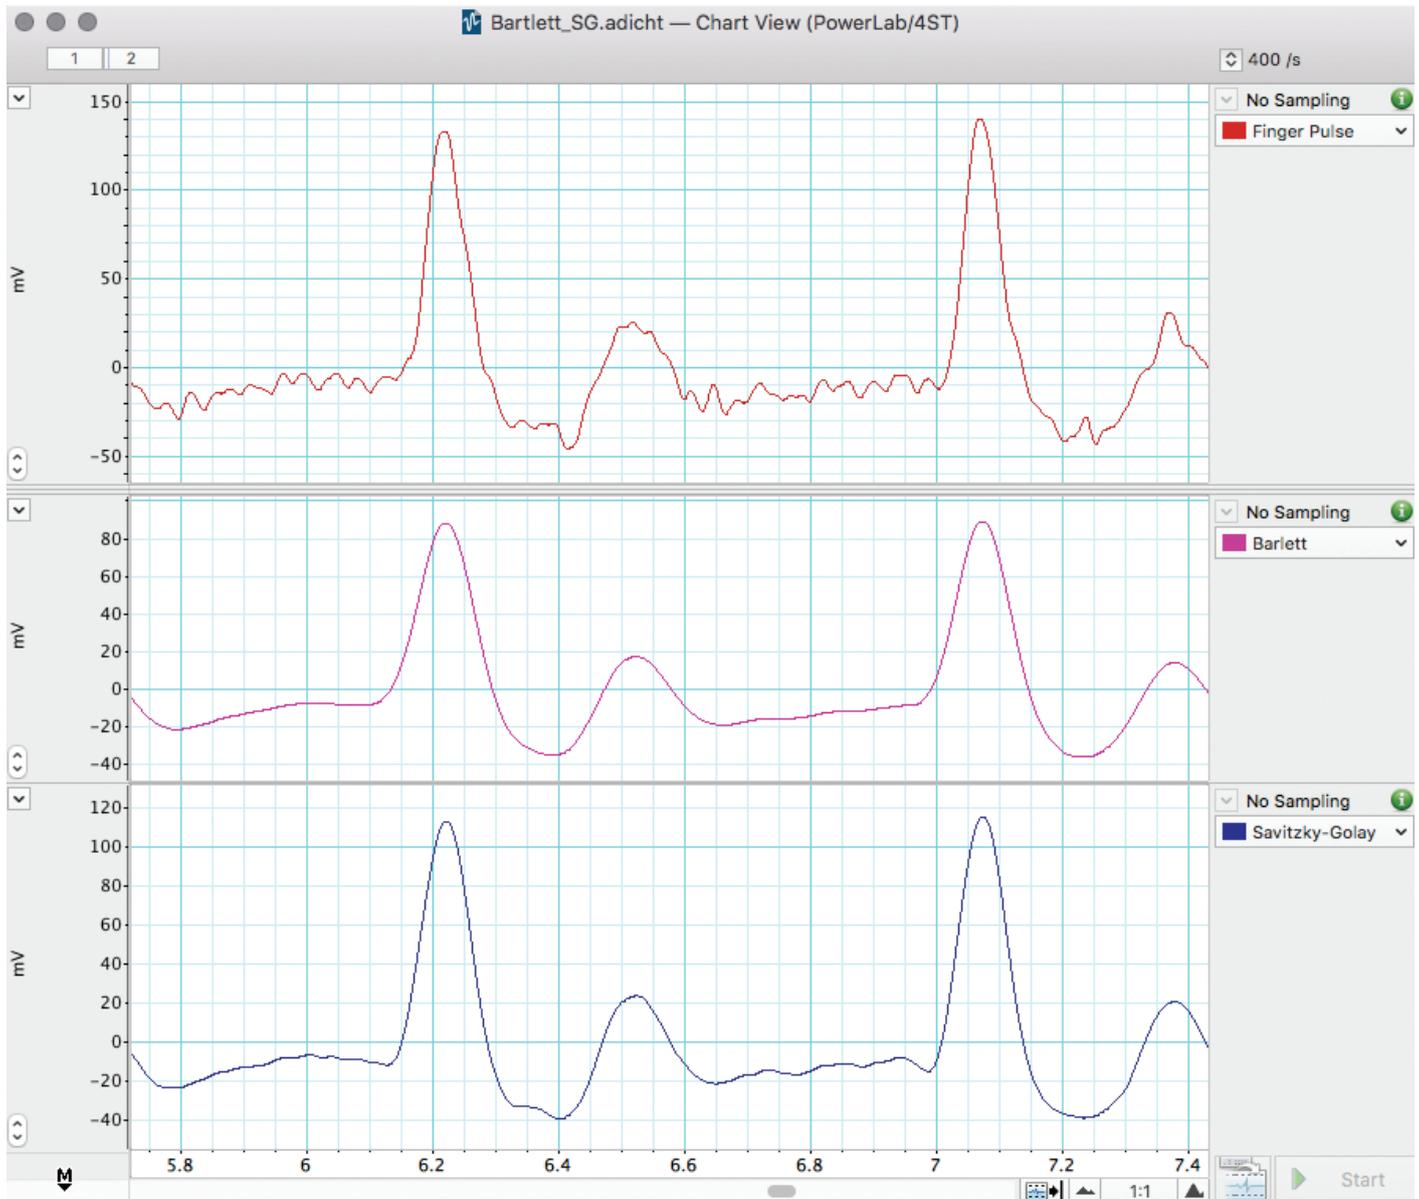

Figure 8 Example used in LabChart Training courses, examining the differing effects of the Bartlett and Savitsky-Golay smoothing functions.
- **Triangular (Bartlett) window smoothing** works by taking the sample point together with a variable number of points on each side in the moving average window, weighting the values (most at the middle, which decreases to zero going out towards the window edges) and averaging them to give the smoothed value at the sample point (**Figure 8**).